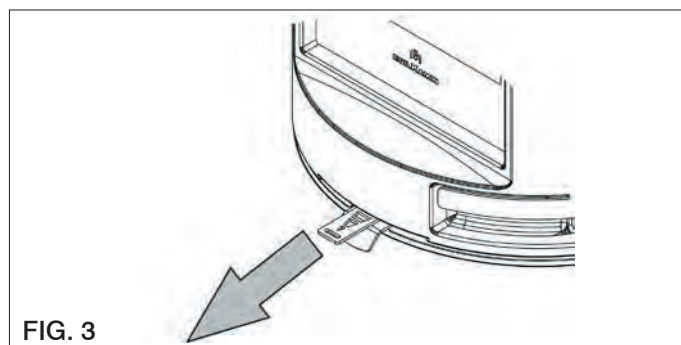

FIG. 3
- “Switch on”/max power position (Fig. 3)